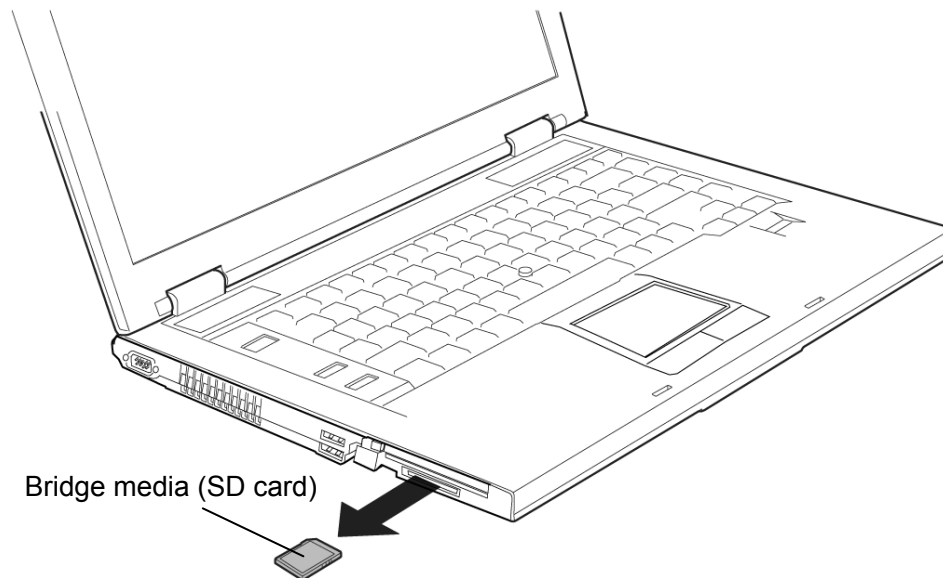

Figure 4-3 Removing the Bridge media
To remove the Bridge media, follow the steps below and refer to Figure 4-3.
1. Push the **Bridge media**. It will pop out partly, so pull out the card. (For an instance, SD card is described in the figure 4-3.).
To install the Bridge media, follow the steps below and refer to Figure 4-3.